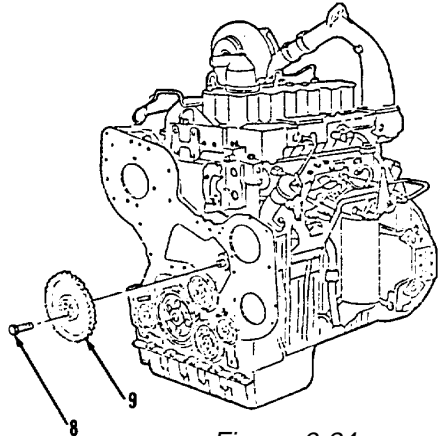

Figure 3-24.
- 6. Remove four bolts (8) and gear (9, Figure 3-24).